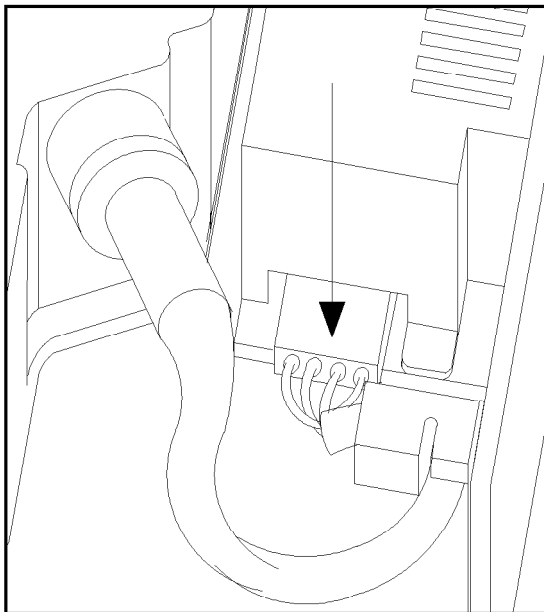

Figure 4-2. Disconnecting Flash Power Supply Cable
4. Disconnect the flash power supply cable at the connector on the FPS board, see Figure 4-2.